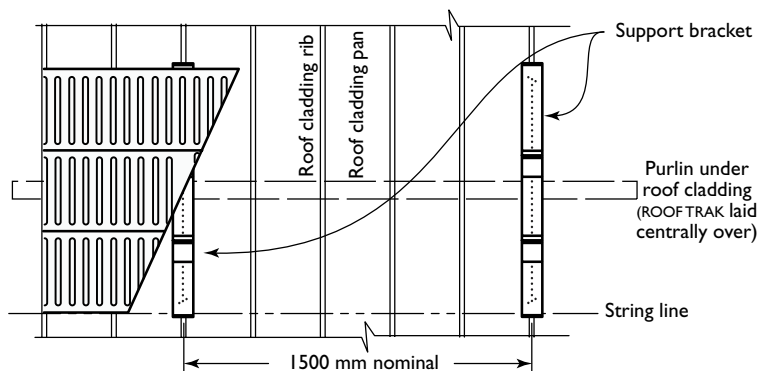

Figure 2
- If the ROOFTRAK is to be 90 degrees to the roofing ribs: position the support bracket directly over purlins or battens, and parallel with roofing ribs (Figure 2)